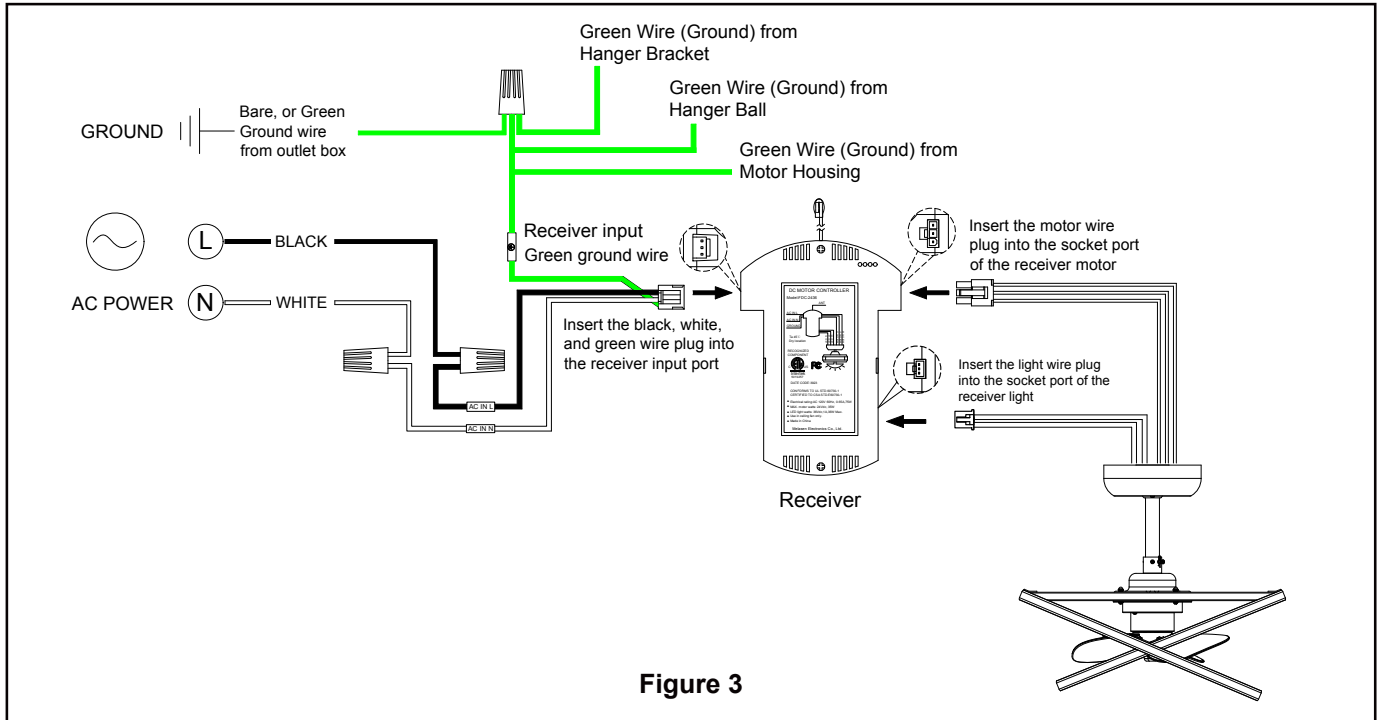

Figure 3
2. Connect green wires from Receiver input Green ground wire from hanger bracket and hanger ball and motor housing to bare (ground) wire from outlet box. Connect black wire from Receiver input marked "AC IN L" to black (ungrounded) supply wire using wire connector. Connect white wire from Receiver input marked "AC IN N" to white (grounded) supply wire using wire connector. Connect the motor plug wire to the receiver output corresponding motor female socket. Connect the light plug wire to the receiver output corresponding light female socket. (Figure 3)